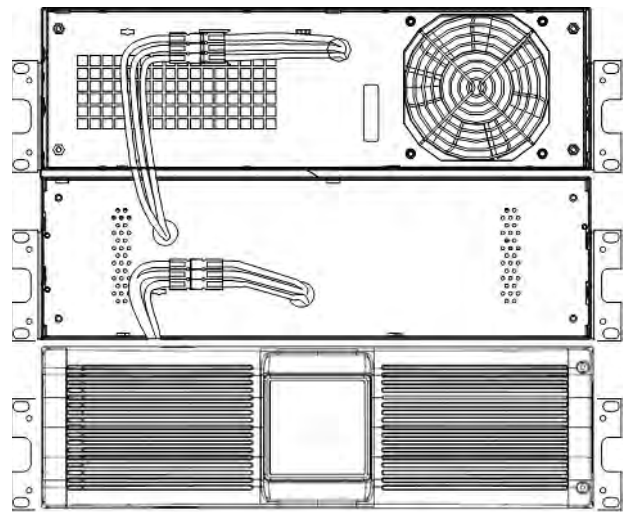

Figure 2: Battery module connections
2. Plug the external battery enclosure cable into the UPS battery connector as shown in Figure 2.